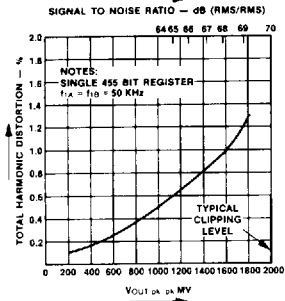

Fig. 6
13. Input Signal = 1 kHz sine wave. See Figure 6.
14. Audio S/N is defined as the ratio of RMS signal to RMS noise at 23 kHz bandwidth. Both are measured with an HP3400A RMS Voltmeter. See Figure 6.